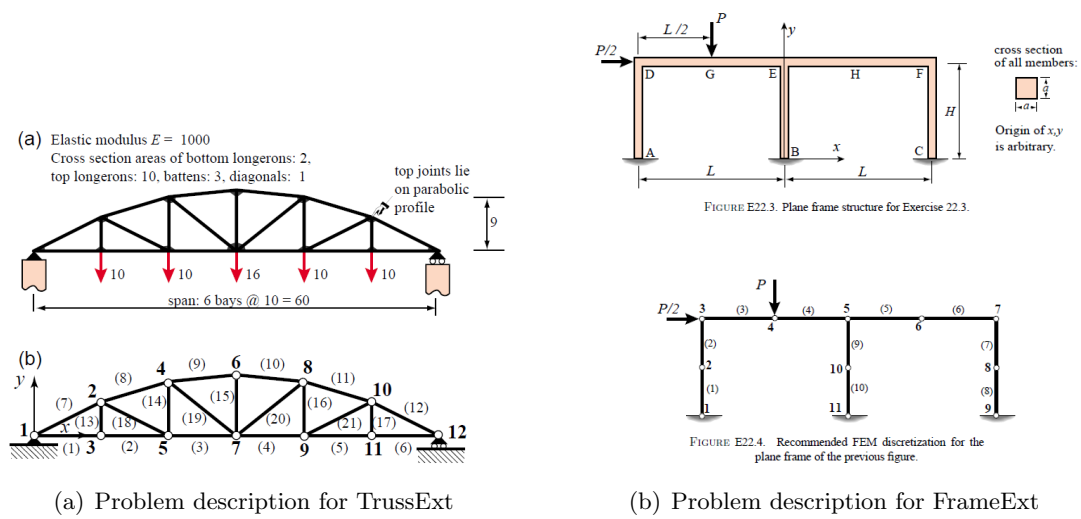

Figure 1: Brief description of two problems from reference [1]; for more information refer to the reference.
3. From Reference [1]: **Input File** and **output File** for Figure 22.4 (also shown in figure 1(a)). RunName = TrussExt.
4. From Reference [1]: **Input File** and **output File** for Exercise 22.3 (also shown in figure 1(b)). All geometry and material parameters are provided in the reference [2] page 22-12 “The SI physical units to be used are: mm for lengths, N for forces, and MPa=N/mm² for elastic moduli. For the calculations use the following numerical data: $L = 10,000$ mm (10 m), $H = 6,000$ (6 m), $a = 500$ mm (0.5 m), $P = 4,800$ N, $E = 35,000$ MPa (high strength concrete). The member cross section area is $A = a^2$, and the flexural moment of inertia about the neutral axis is $I_{zz} = a^4/12$ ”
5. From Reference [1]: Exercise 22.4 (A concept question about Exercise 22.3). The question is as follows: Do we capture the exact solution for the frame problem in figure 1(b)? Justify your answer (why we (do not) obtain the exact solution).